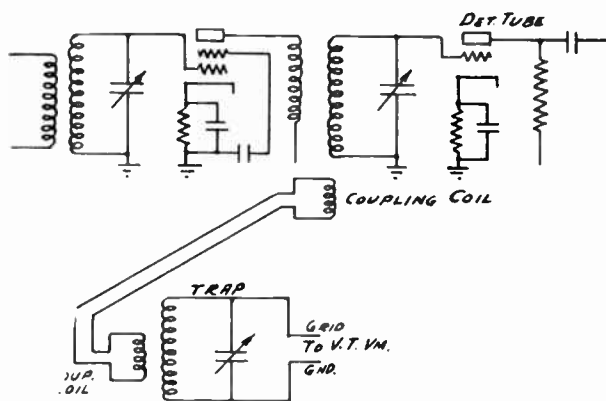

Figure 27
5.31—When adjusting the oscillator be sure to set the attenuator at the maximum position using the high output jack. A small coupling coil of 10 to 20 turns having the same diameter as that of one of the tuned r.f. coils can be wound up quickly and placed over the end of the receiver tuning coil. With the same number of turns on the other end of this coil circuit brought out at a convenient place on the bench or table, a field can be set up for adjusting the trap circuit. See Figure 27.